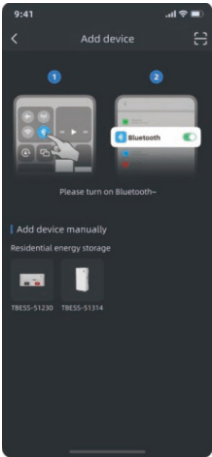

Figure 2
- 2)Figure 2: Please confirm that the Bluetooth on your phone is turned on.